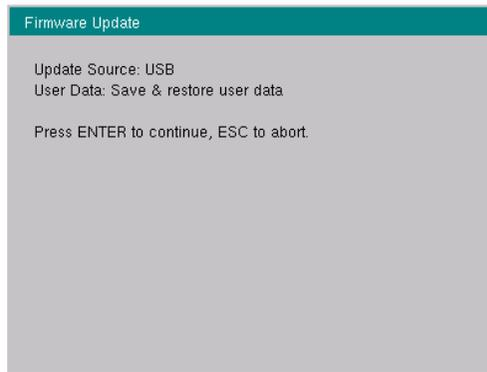

Figure 6-11. Firmware Update Menu
7. The Firmware Update dialog will query you to confirm the process by pressing **Enter** to continue or **Esc** to abort (Figure 6-11).